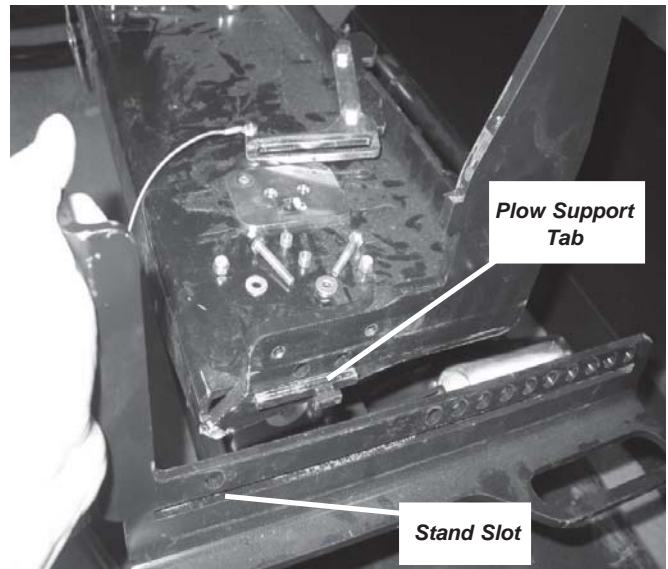

Figure 18 Install stand, right hand side shown
21. Install stand to plow support by inserting tab through slot. See Figure 18 and 19.